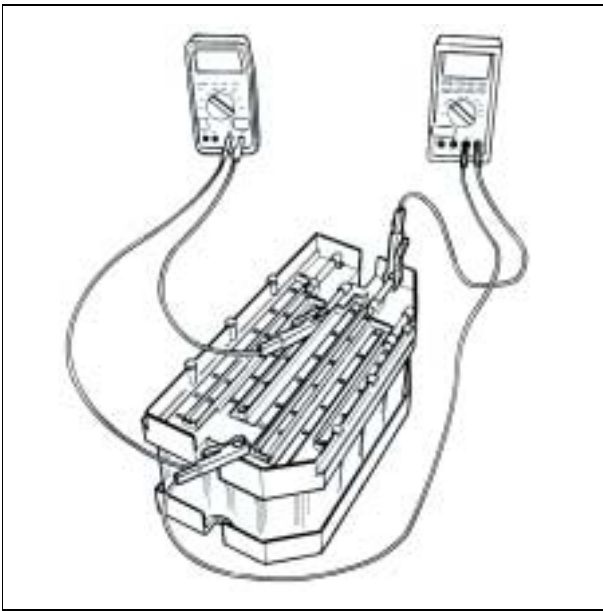

Fig. 3
- Measure the voltage for the capacitor bank at the bus bar. (Fig. 3).
- Measure the capacitor bank voltage on the bus bar (Fig. 3).